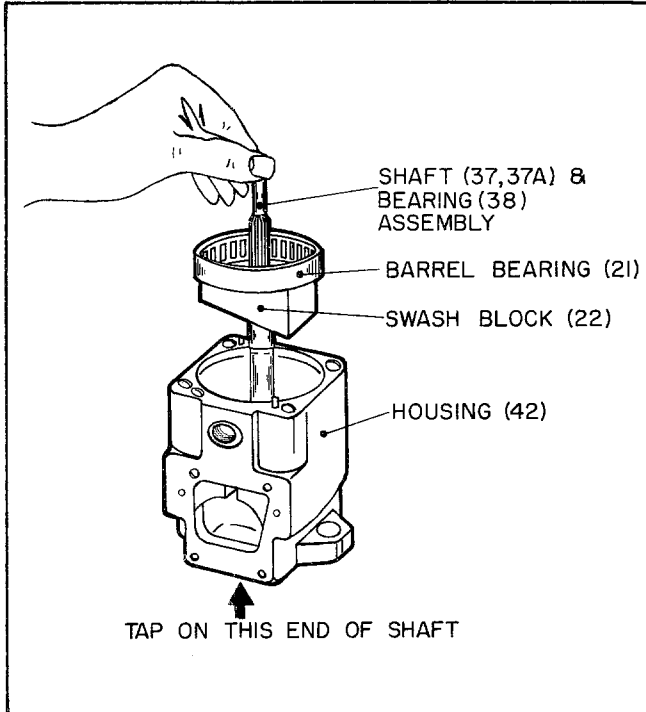

Fig. 5 Driveshaft/Swash Block Removal (510237)
Remove any coupling or shaft key (10) on driveshaft. Remove retaining ring (26) from bore inside of case. Place unit in a vertical position with driveshaft pointed down. Gently tap the shaft end upwards (fig.5).